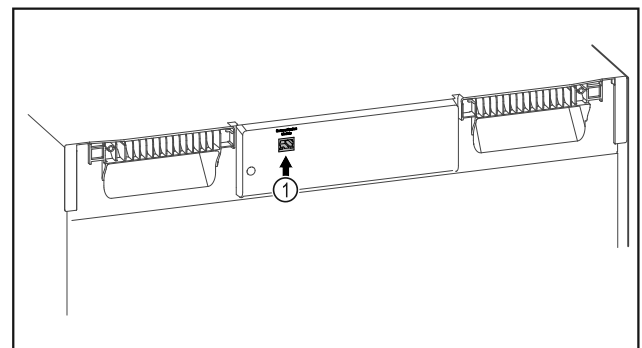

Fig. 152
- ❑ SmartModule Fig. 152 (1) is in use.